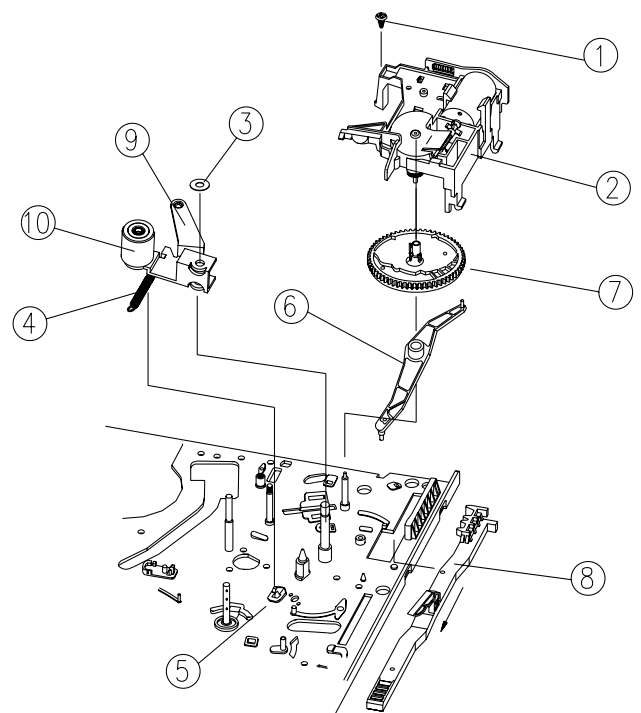

Fig.3-11 L/C BRKT, PINCH LEVER, CAM GEAR, RELAY LEVER, F/L RACK REMOVAL
3-6. L/C BRACKET ASS'Y REMOVAL (See Fig.3-11)
TOTAL ASS'Y REMOVAL (See Fig.3-11)
3-8. CAM GEAR, RELAY LEVER AND F/L RACK REMOVAL (See Fig.3-11)
- a. Remove the CAM GEAR ⑦ from the MAINBASE. (Fig.3-11)
- b. Remove the RELAY LEVER ⑥ from the MAINBASE. (Fig. 3-11)
- c. Remove the F/L RACK ⑧ from the MAINBASE by pulling it in the direction of the arrow.